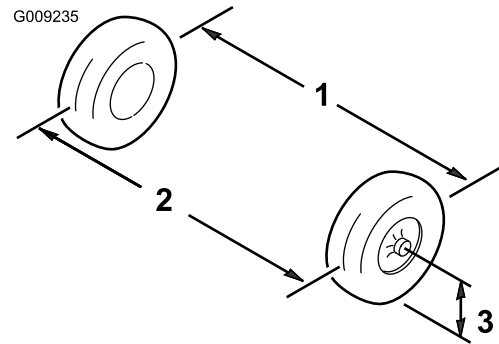

Figure 47
3. Measure the distance between both of the front tires at the axle height at both the front and rear of the front tires (Figure 47).